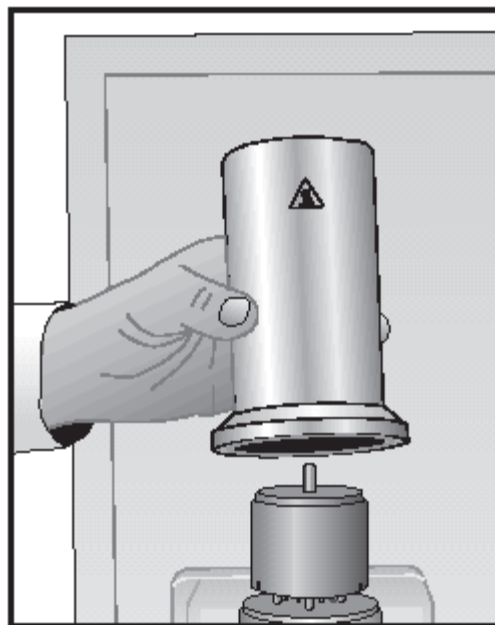

Figure 3
3. Install the *metal bell jar* for cell without a heat exchanger. See Figure 3. Install the *safety lid* for cell using a heat
DSC 2920/2910/2010 Instruments: Be sure to use the supplied safety devices, as shown in Figures 3 and 4 on the previous page, when running any experiments or calibrating with the high pressure capsules.